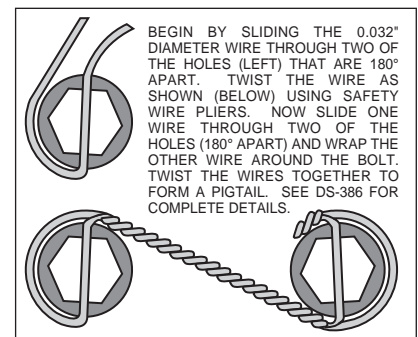

Figure 3. Safety Wire Diagram
- Attach rotor adapter (8) to rotor (9) using six bolts (10). Torque bolts (10) to 180 in-lb. Safety wire bolts (10) using standard 0.032 inch diameter stainless steel safety wire as shown in Figure 3. Please refer to Wilwood's data sheet DS-386 (available at www.wilwood.com/pdf/ds386.pdf) for complete safety wire installation instructions. **NOTE:** The flat side of the rotor (8) lugs face toward the rotor adapter (9) with the dished side of the rotor adapter (8) facing away from the rotor (9).
- Mount the adapter/rotor assembly (8 and 9) to the hub (5) using six bolts (11). Torque bolts (11) to 22 ft-lb. Safety wire bolts (11).
- Pack the small outer bearing cone (12) with high temperature disc brake bearing grease and install into front of hub (5). Slide the hub/rotor assembly (5 and 9) with outer bearing cone (12) onto the spindle. Secure using stock washer, adjusting nut and nut locking device.
- Install the dust cap (15) onto the hub (5). Friction created by the o-ring (14) on the dust cap (15) keeps it from unscrewing. The O.D. of the existing spindle washer may be larger than the I.D. of the dust cap (15) not allowing it to seat against the hub face. Therefore, use the spindle washer (13) supplied with the kit instead of the stock washer.
- **NOTE:** Please reference the caution statement at the beginning of the assembly instructions. With the bleed screws pointing up, mount the caliper (16) onto the caliper mounting bracket (1) using lock washers (17), bolts (18) and caliper spacer (19) positioned between caliper (16) and the caliper mounting bracket (1). Finger tighten. View the rotor (9) through the top opening of the caliper (16). The rotor (9) should be aligned in the center of the caliper (16). If not, adjust the caliper (16) by using 0.032 inch thick shims (20) placed between the caliper mounting bracket (1) and the caliper (16). Add as many shim washers (20) as necessary to achieve the correct alignment. Always use the same amount of shims on both the top and bottom caliper mounting bolts (18). Finger tighten and recheck alignment, adjust as necessary. Apply red *Loctite*® 271 to bolt threads (18) and torque to 30 ft-lb. Safety wire caliper bolts (18).
- Install the disc brake pads (21) into the caliper (16).
- Secure the disc brake pads to the caliper utilizing cotter pin (22).